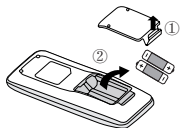

Fig.1
1. Lift the cover along the direction of arrow (as shown in Fig 1 ).
2. Take out the original batteries (as shown in Fig 1 ).